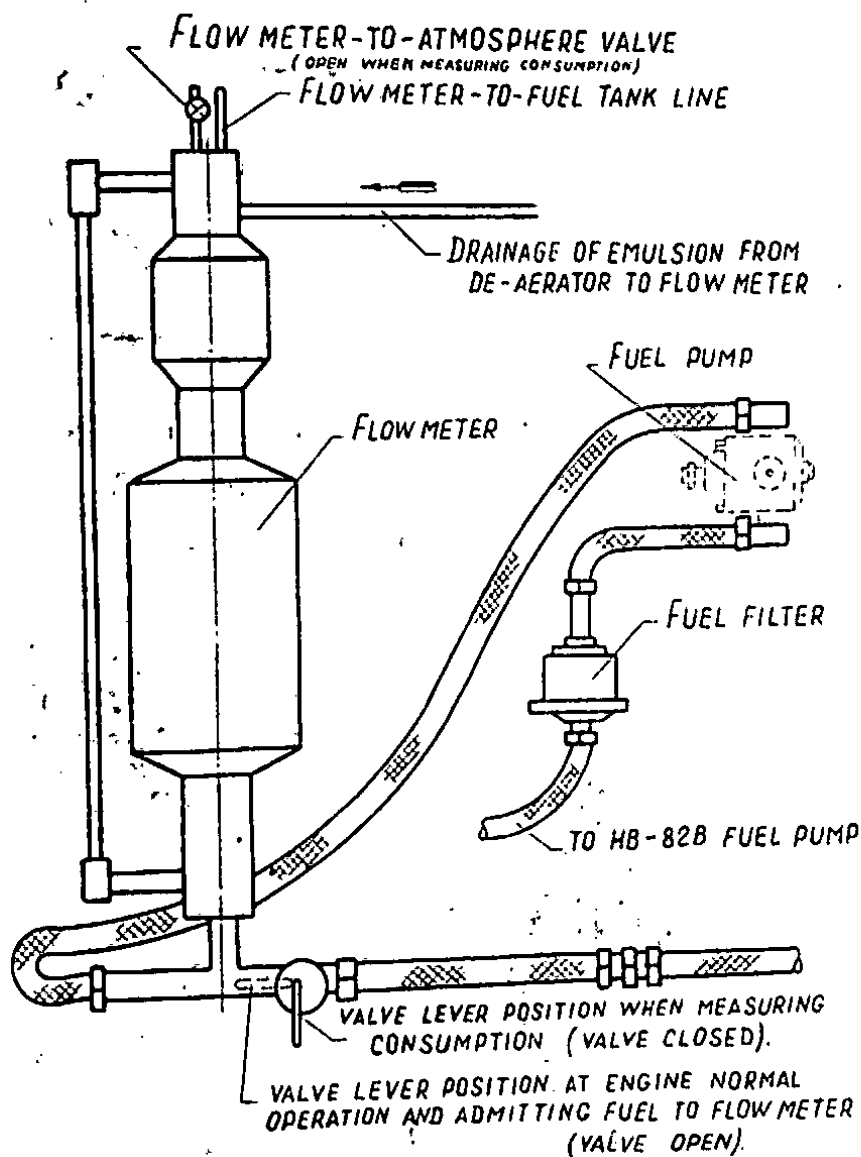

Fig. 21. Flow meter-to-fuel system connection diagram.
1. Connect the flow meter to the fuel pipe line connecting the fuel tank with the 5HK-10KB pump (Fig.21).